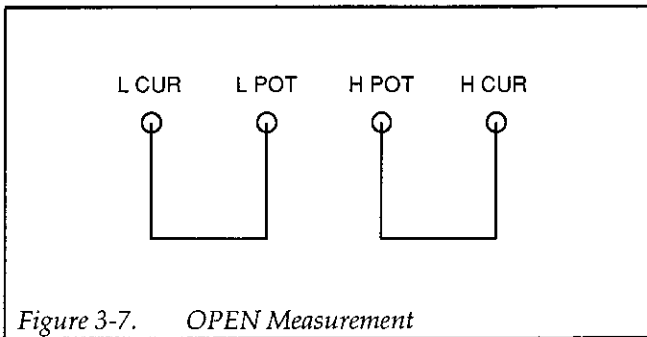

Figure 3-7. OPEN Measurement
1. Open the measurement terminals as shown in Figure 3-7.
For the OPEN correction, make sure L CUR is connected to L POT, and H POT is connected to H CUR as shown in Figure 3-7.